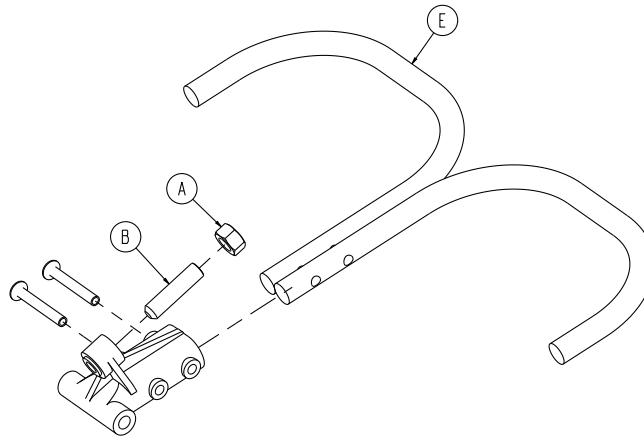

Figure 15 – Loosen the hex nut
13. Using a 1/2" combination wrench, loosen the hex nut (A) on the Fowler release handle pivot while using a 5/32" hex wrench to hold the set screw (B) fixed in the pivot (Figure 15).
14. Using a 5/32" hex wrench, turn the set screw until there is no movement between the Fowler release handle (E) and the pneumatic cylinder release button (Figure 15).
17. Using the 1/2" combination wrench, tighten the hex nut (A) while you hold the set screw (B) fixed in the pivot (Figure 15).